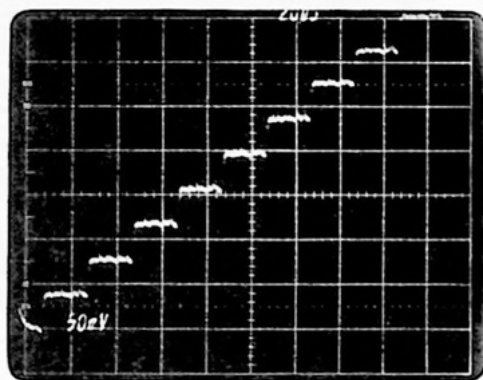

Figure 6-18 _____
Step 13 — Expand the oscilloscope time base (seconds/division) and volts/division settings such that you can observe the output steps of the DAC as pictured in Fig. 6-18. Carefully measure the DAC step size. We found the step size of our DAC output to be 0.04 volt. This value makes sense since the maximum output level of the 8-bit DAC is 10 volts. Consequently, the step size of the DAC is: